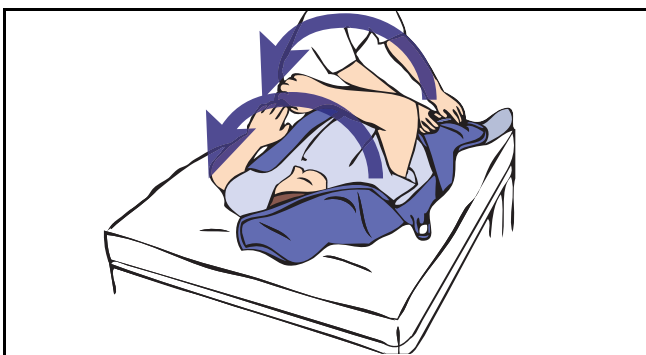
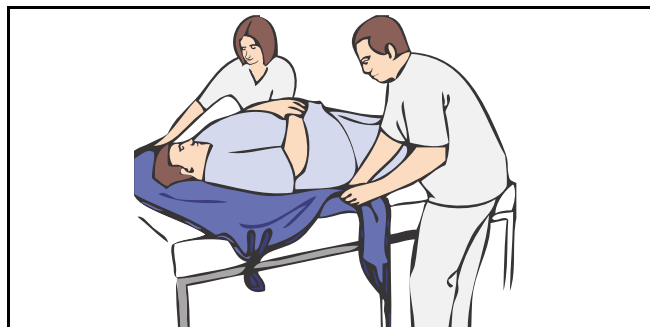

Fig. 23
Fig. 24
- 1) Roll the patient towards you, fold the sling in half and place it on the bed, along the back of the patient (see Fig. 23). Ensure that the sling is positioned so that when rolled back, the patient will lie in the center of the sling. Also check that the head support area of the sling lies directly beneath the neck of the patient.
- 1) Place the sling around the patient as in section "To Lift a Patient from a Bed" (see Fig. 23 and Fig. 24).